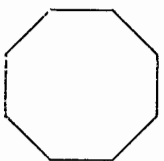

Fig. 50
43. An *Octagon* has eight sides. Fig. 50.